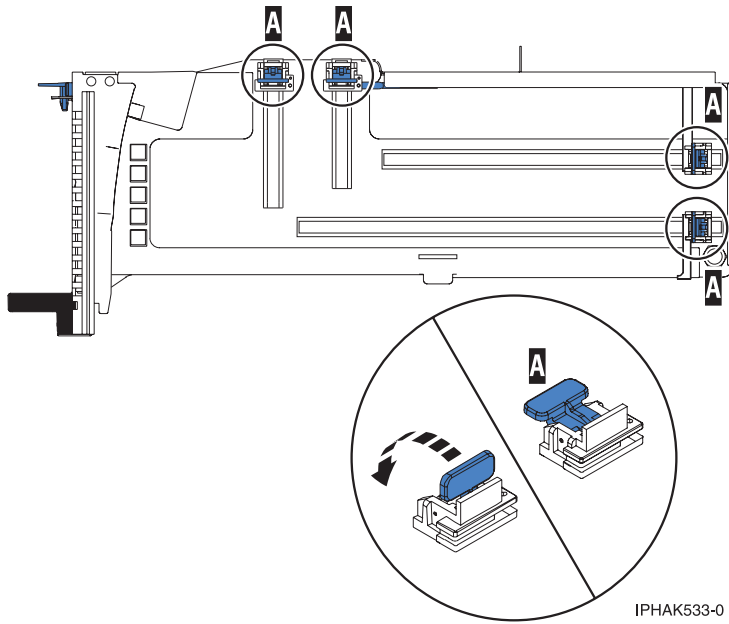

Figure 38. Adapter retainers
- b. Ensure that all of the adapter retainers (A) have been pushed out to the edges of the cassette to allow the placement of the adapter. See Figure 38 on page 57.